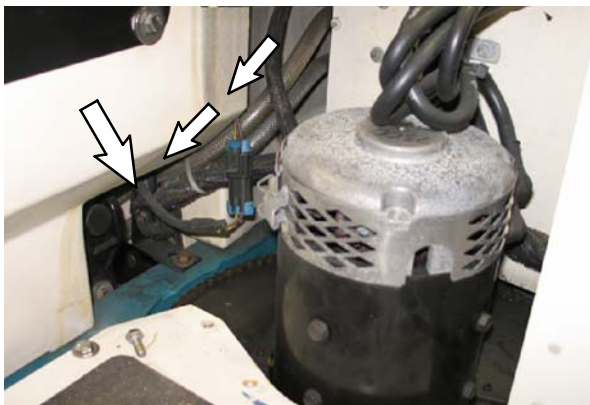

FIG. 4
6. Route both 45" (1140 mm) hoses from the operator compartment, along the main harness (away from the actuator and other moving parts), and down to the scrub head. Refer to Fig. 4.